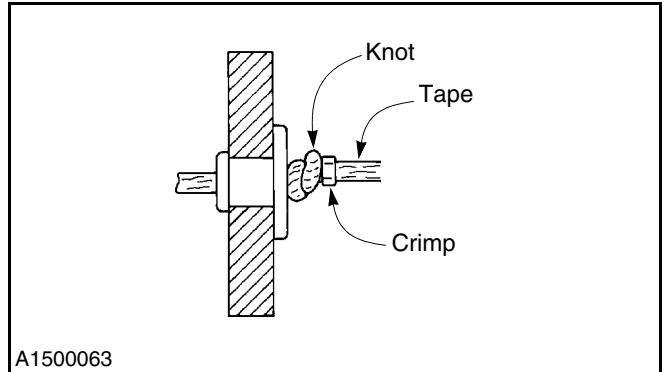

Figure 59
11. To prevent the other end of the rope tie from fraying once it is cut to length, wrap a length of tape around the rope near the second knot. Then cut the rope tie to length — cutting across the middle of the taped section. Install a crimp over the taped end. (See Figure 59.)